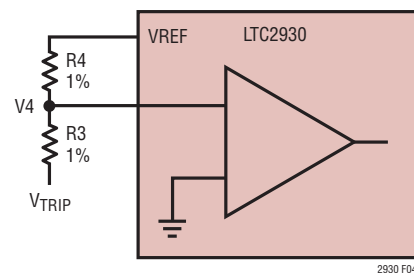

Figure 4. Setting the Negative Adjustable Trip Point
*See Figure 4.
In the negative adjustable mode, the reference level on the V4 comparator is connected to ground (Figure 4). The tap point on an external resistive divider, connected between the negative voltage being sensed and the VREF pin, is